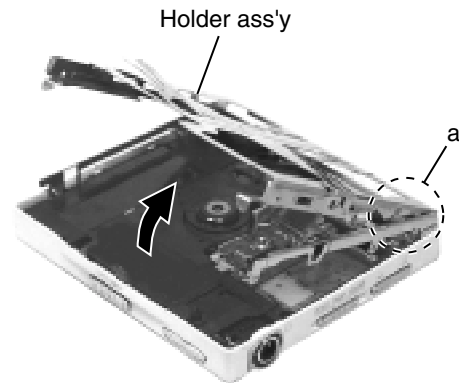

Fig.3
■ Removing the holder ass'y (See Fig.3 and 4)
1. Turn the holder ass'y as shown in Fig.3.